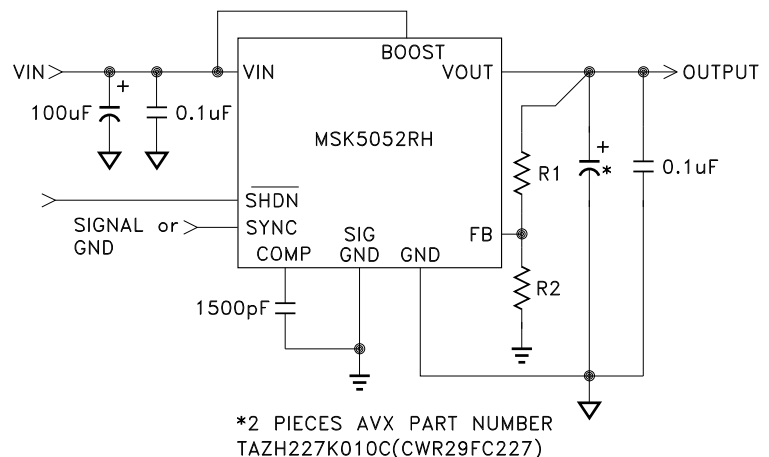

FIGURE 1
- ① Unless otherwise specified V_{IN} = 5.0V, V_{OUT} = 2.5V and I_{OUT} = 1.0A. See Figure 1 for typical application circuit.
- ② Guaranteed by design but not tested. Typical parameters are representative of actual device performance but are for reference only.
- ③ Reference SYNC pin function in the Application Notes section herein.
- ④ Industrial grade devices shall be tested to subgroup 1 and 4 unless otherwise specified.
- ⑤ Military grade devices ("H" Suffix) shall be 100% tested to subgroups 1,2,3 and 4.
- ⑥ Subgroup 5 & 6 testing available on request.
- ⑦ Subgroup 1,4 TA = TC = +25°C
The output voltage of the MSK 5052RH is set with a simple resistor divider network: see Figure 1 (Typical Application Circuit). Select the resistor values to divide the desired output down to equal VFB (1.21V nominal) at the FB pin. Use a 2.5K or lower value resistor for R2 to keep output error due to FB pin bias current less than 0.1%.